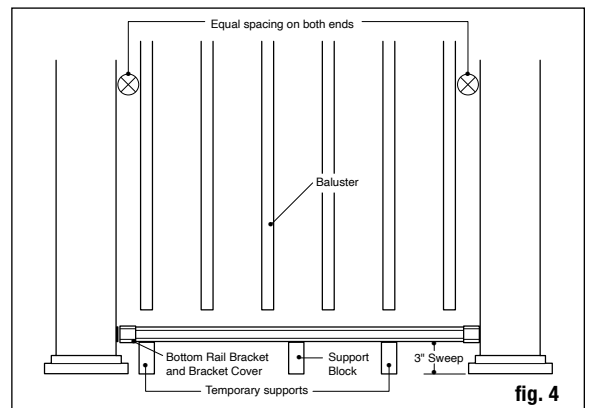
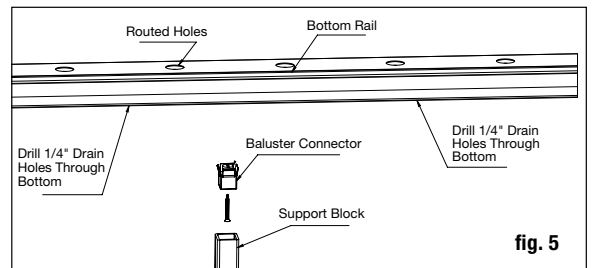

fig. 4
fig. 5
**Step 6** Measure the distance between installed post sleeves to determine the length of the top and bottom rails. Place the bottom rail in position next to the posts using 3" temporary supports and adjust so the distance between the first baluster hole and post is greater than 2" and equal on both ends (refer to fig. 4). Mark the rail. Cut the bottom rail. Cut the top rail to the same spacing and length.
**Step 7** For the 6' rail find the center of the underside of the bottom rail and attach the baluster connector included with the support block using the screw provided. (For the 8' rail divide the length of the rail in three to get the location of the support blocks. Then attach the baluster connectors included with the support blocks using the screws provided.) Check building code requirements for the maximum spacing between deck surface and bottom of rail (sweep). This rail is designed for a 3" sweep see (fig. 4). If necessary, trim the support block to the determined height (fig.5). **Drill two 1/4" drain holes through the bottom of the rail to prevent trapping water. Center drain holes between two baluster locations as baluster can block the pathway and stop water from properly draining.**